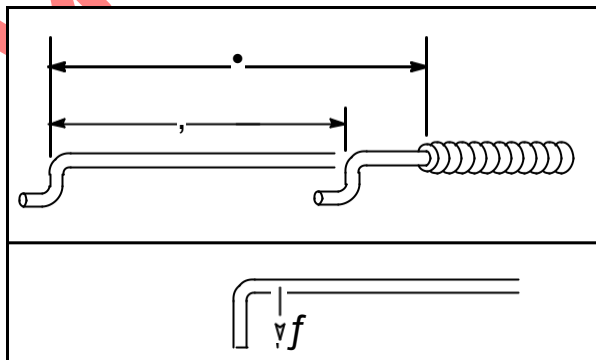

Fig. 4
In order to make proper remote control adjustments, the remote control wire must have travel of **not less than 1-3/8" (35 mm) (2)** with controls mounted in equipment, **Fig. 4**. The dimension from the end of the cable casing to the wire at the end of its travel (1) is **2-1/8" (54 mm) minimum**.